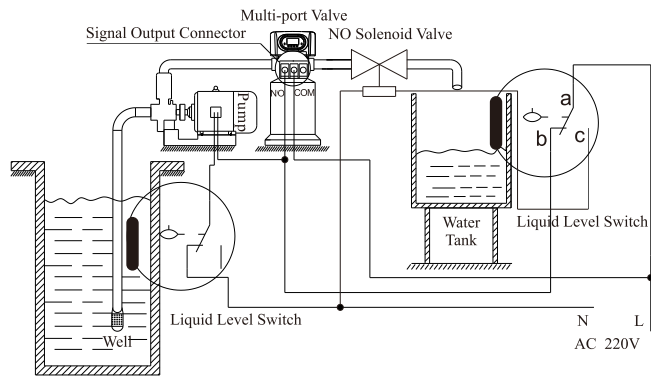

Figure 3-5 Wiring of Liquid Level Controller Controlling Inlet Pump
**Instruction:** For the system using well or middle-tank supplying water, users can turn on and turn off the pump by operating the switch of liquid level controller and control valve. The wiring refers to Figure 3-5: